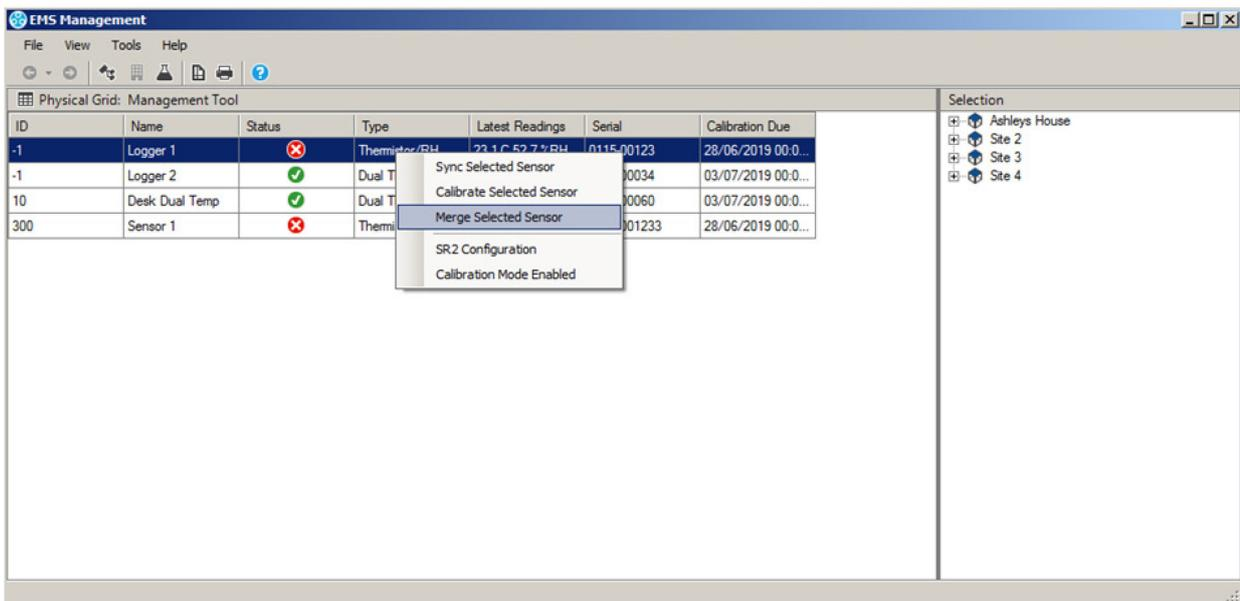

Figure 13
2. From the displayed drop-down menu, select **Merge Selected Sensor**. See Figure 13 below: